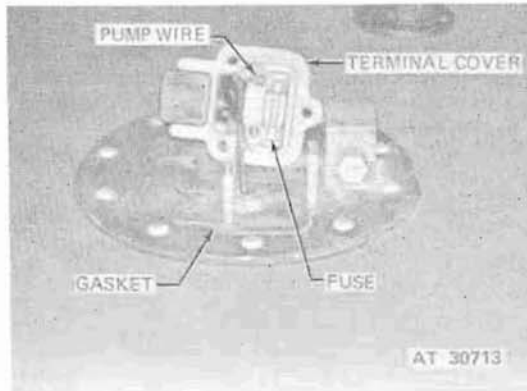

Figure 126.2. Fuel tank fuel pump fuse.
76.1. Fuel Tank Fuel Pump Fuse Replacement (Fig. 126.2).